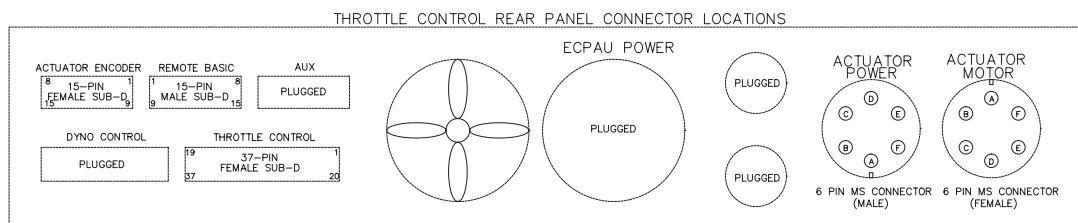

Figure 3.1 - DS630 Throttle Controller Rear Panel Connector Locations
**NOTE:** *Refer to Figure 3.1 for the DS630 Throttle Controller rear panel connector locations.*